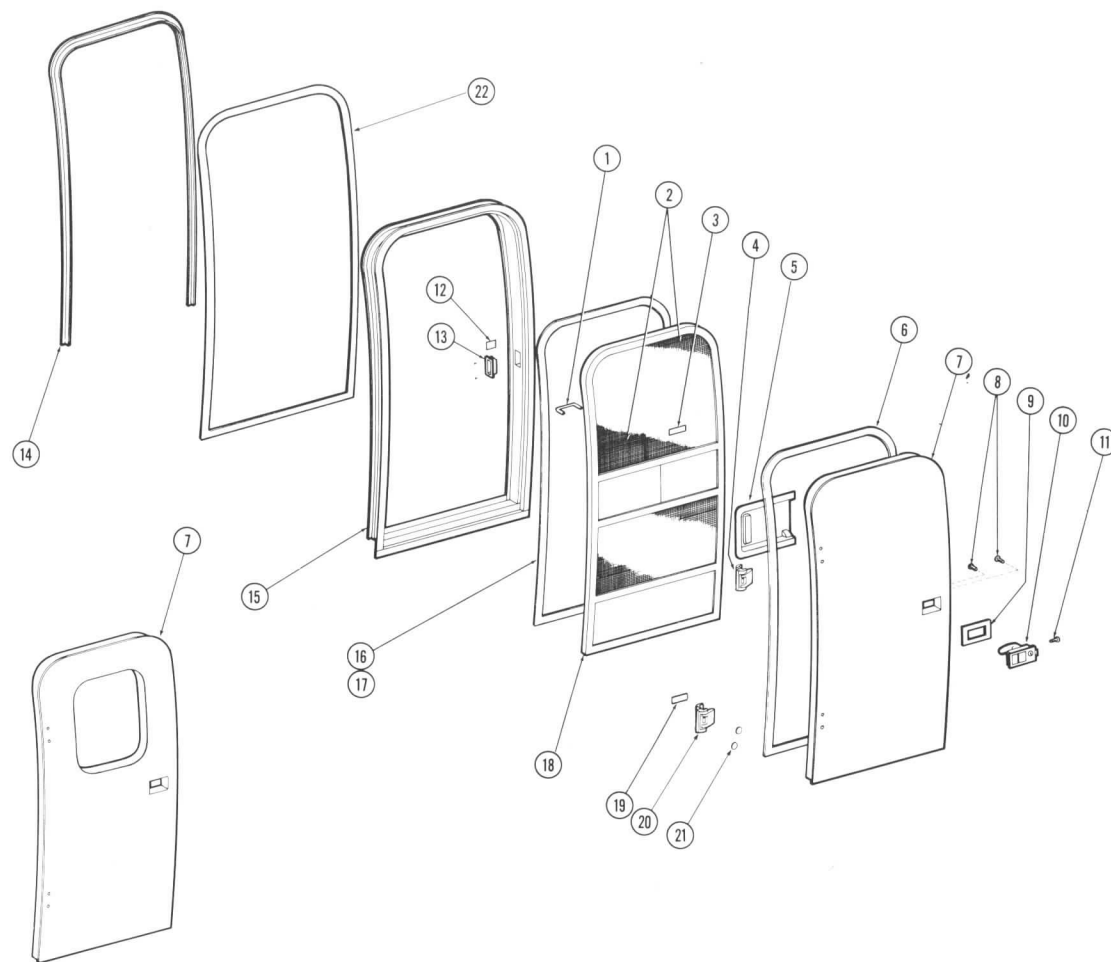

Fig. 14
- b. Carefully pull on rubber with one hand, and run drill around edge of door (between rubber and door). This will peel rubber from door very easily. (See Fig. 14.)
- g. When starting rubber, be sure proper edge of rubber is facing outward on door for correct seal. Keep rubber tight but do not stretch. (See Fig. 14)